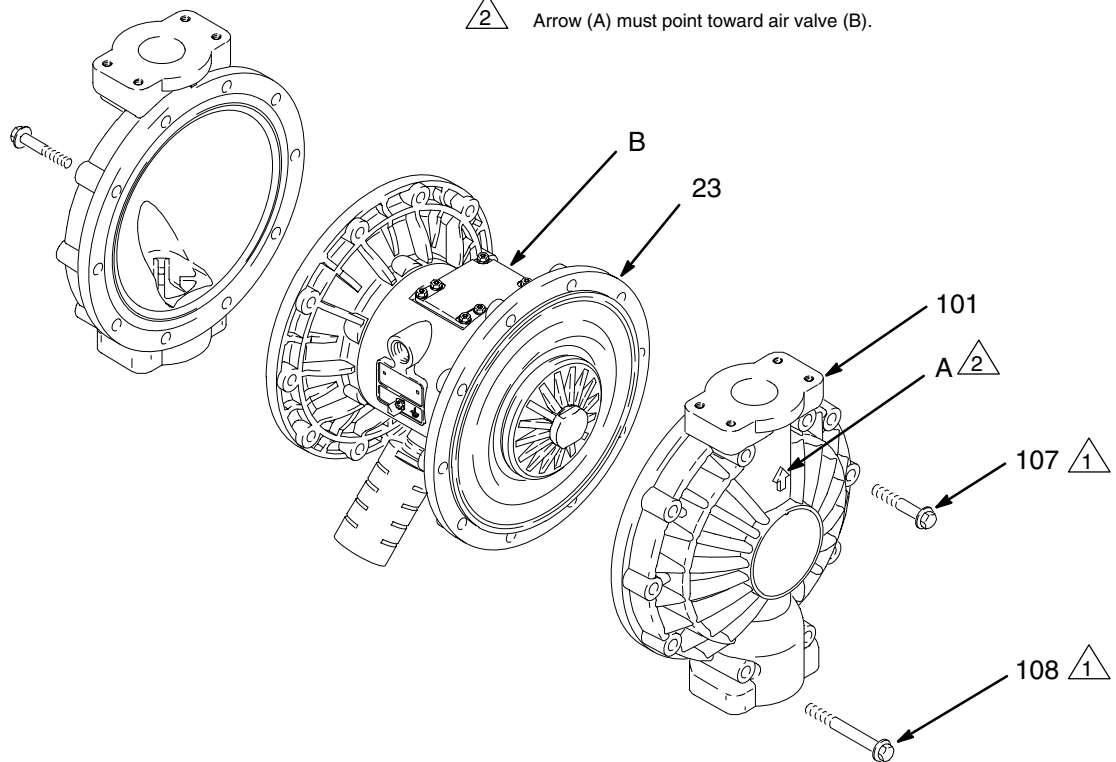

Fig. 12
3. Using 13 mm socket wrenches, remove the screws (107 and 108) holding the fluid covers (101) to the air covers (23). Pull the fluid covers (101) off the pump. See Fig. 12.
- 1 You must torque the eight long screws (108) first, then the short screws (107). Torque to 22–25 N.m.
- 2 Arrow (A) must point toward air valve (B).
4. Apply medium-strength (blue) loctite® or equivalent to the threads of the fluid-side plates (105). Hold one of the outer plates (105) with a wrench and torque the other outer plate to 18.1–22.6 N.m at 100 rpm maximum. Do not over-torque.
5. Align the fluid covers (101) and the center housing (1) so the arrows (A) on the covers face the same direction as the air valve (B). Secure the covers with the screws (107 and 108), handtight. Install the longer screws (108) in the top and bottom holes of the covers. See Fig. 12.
6. First, torque the longer screws (108) oppositely and evenly to 14.7–16.9 N.m, using a 13 mm socket wrench. Then torque the shorter screws (107).